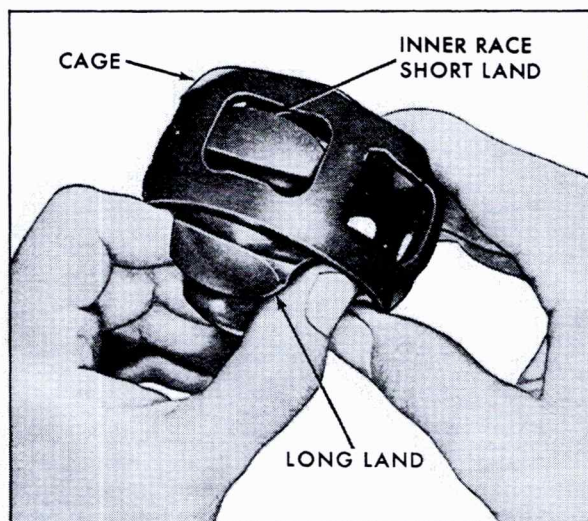

Fig. 3-64 Removing Inner Race From Cage
9. Turn short land of inner race 90° in line with hole in cage. Lift land on inner race up through hole in cage, then turn up and out to separate parts as shown in Fig. 3-64.
cage, and pivot to install in cage as shown in Fig. 3-64.